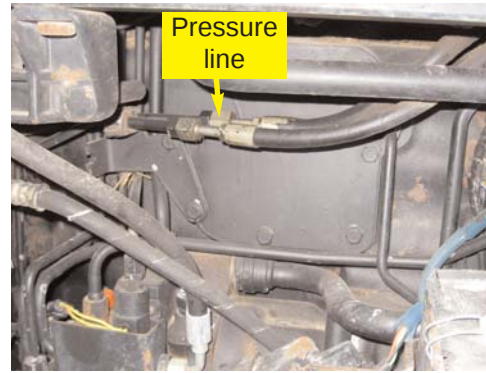

Figure 3a. Pressure line location.
- a. The automated steering block will receive pressure from the steering orbital pressure line. Locate the pressure line above the hydraulic pump on the right side of the tractor. Tank flow will be relieved to the steering return line on top of the hydraulic filter base. The hydraulic filter base is located behind the battery box on the right side of the tractor. (Figure 3a. and 3b.)